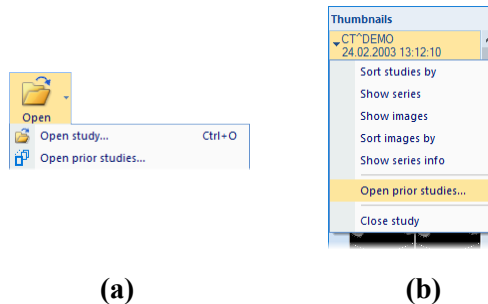

Figure 113 – Display Open prior studies dialog
- Display any image of the base study in the current view, and select the **Open prior studies...** item in **Study** main submenu or in **Open** context menu in the main toolbar (see Figure 113 a).
- Click on the thumbnail in the thumbnails palette belonging to the base series, and select **Open prior studies...** item in the context menu (see Figure 113 b).